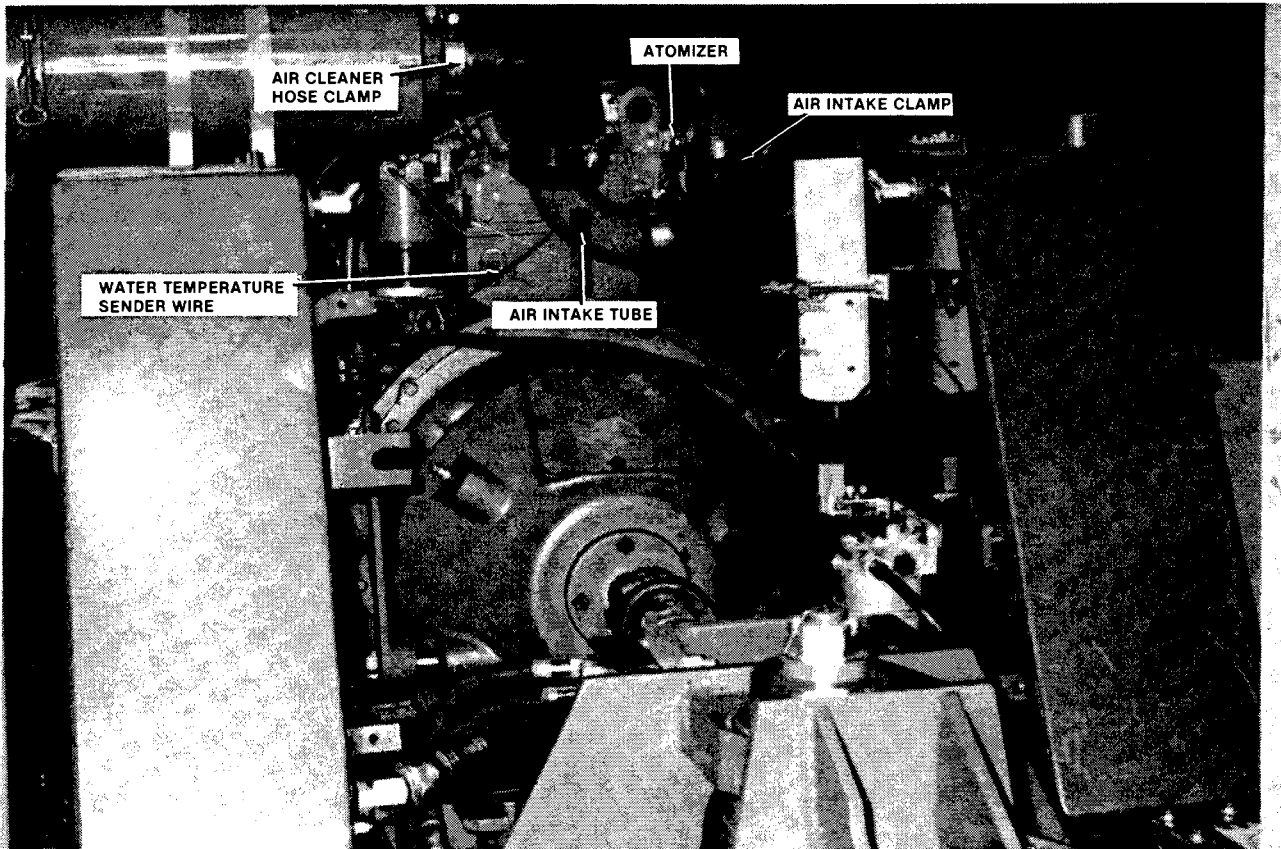

FIGURE 2-4: Engine Rear
18. Disconnect clamps at air cleaner outlet and engine air intake ports. Remove air intake tube (Figure 2-4).